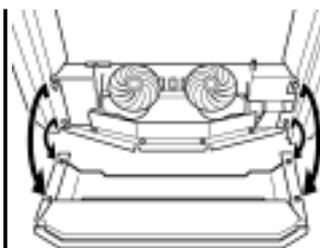

Figure 1
- Carefully lift the lower front & coal support up to release it from the keyholes in the surround and then pull forward and clear. See figure 1.